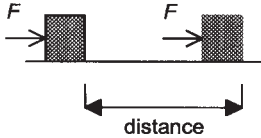

Figure 7.5 *Work*
7.3 Work *Work* is said to be done when the energy transfer takes place as a result of a force pushing something through a distance (Figure 7.5), the amount of energy transferred W being the product of the force F and the displacement s of the point of application of the force in the direction of the force.